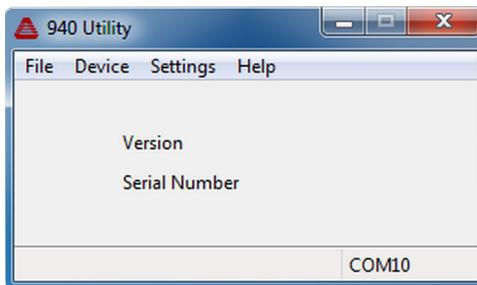

Figure 32: 940A Utility
1. Power on the 940A and start the 940A Utility. See Figure 32.